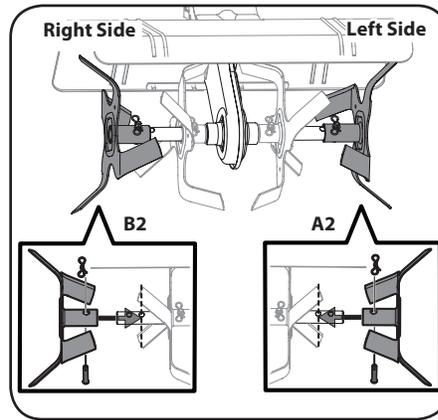

Figure 3-2
3. Use two clevis pins and two cotter pins from the manual bag. From the FRONT of the tiller install the outer LH tines (A2) onto the outer left side of the shaft. Install the outer RH tines (B2) onto the outer right side of the shaft. See Figure 3-2.